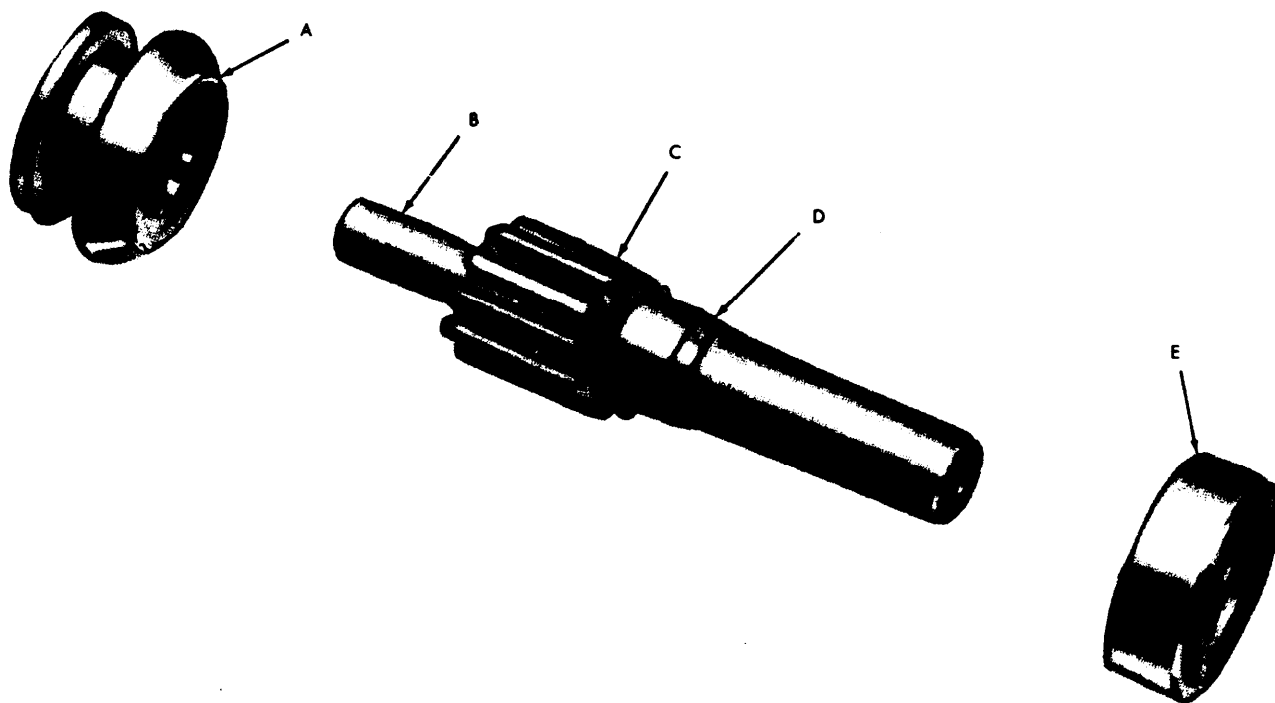

Figure 5-26. Repair and Replacement Standard Points of Measurement for Output Shaft and Related Parts – Model WND-7-28.
**5-21. Repair and Replacement Standard Points of Measurement.** Figure 5-26 and table 5-4 provide the repair and replacement standard points of measurement for power takeoff model WND-7-28.